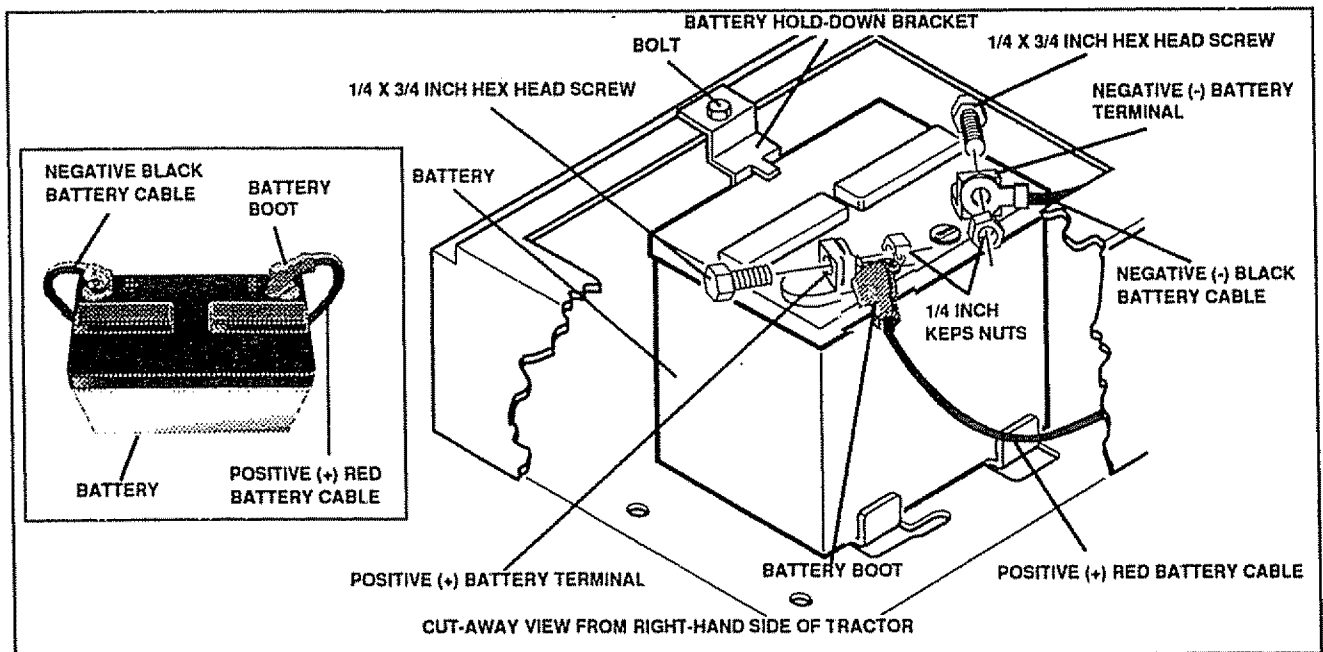

FIG. 6
### REINSTALL CHARGED BATTERY (See FIG. 6)
- Place battery boot over positive (+) battery terminal (see Fig. 6 inset).